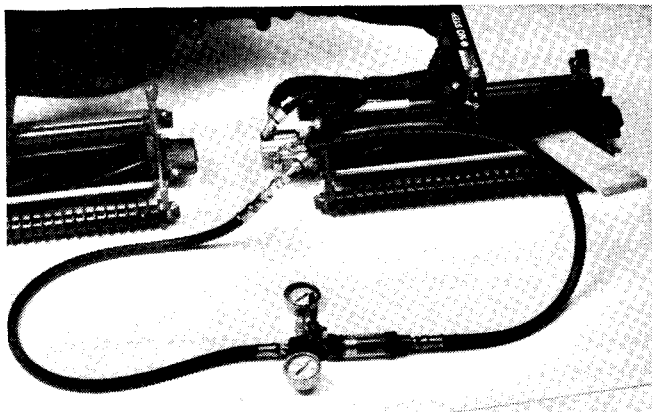

Figure 23
6. With cutting units in RAISED position and engine OFF, insert a block of wood, as shown in Figure 23, between cutting unit reel blades and front cross tube of cutting unit being tested to prevent reel from turning.